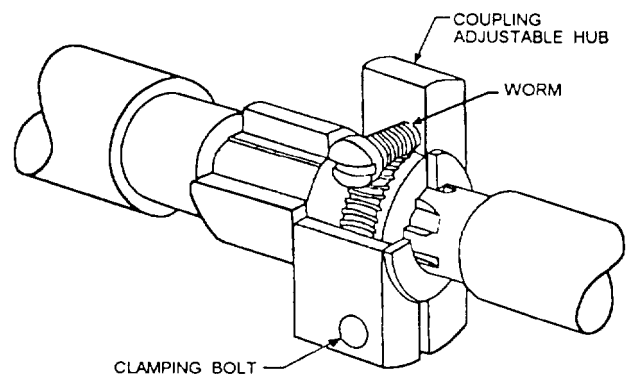

Figure 11-19.-Adjustable (vernier) coupling.
3. The adjustable (vernier) coupling, which provides a means of finely adjusting the relationship of two interconnected rotating shafts (fig. 11-19). Loosening a clamping bolt and turning an adjusting worm allows one shaft to rotate while the other remains stationary. After attaining the proper relationship, you retighten the clamping bolt to lock the shafts together again.